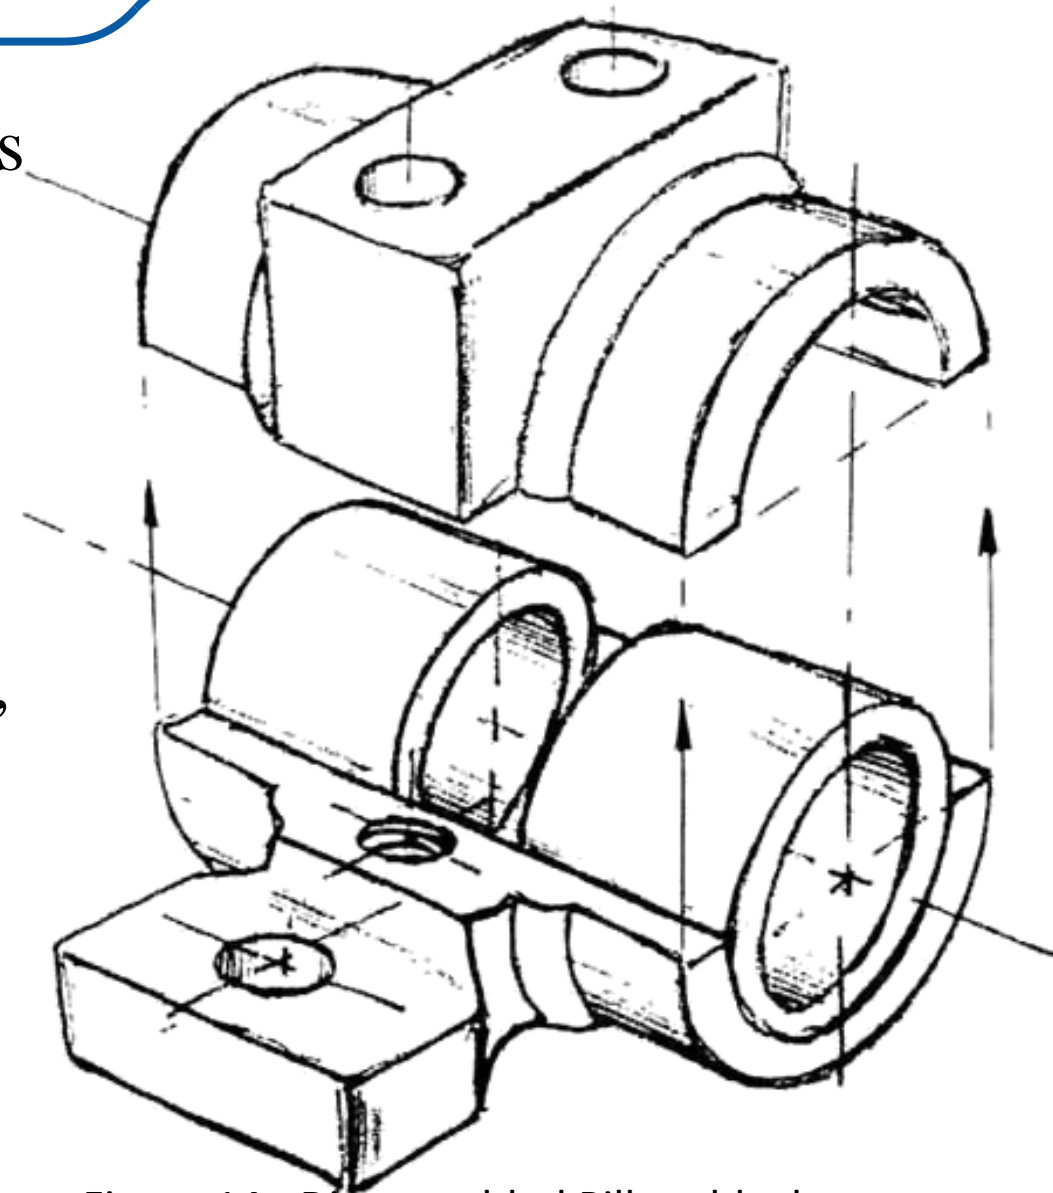

Figure 14 - Disassembled Pillow-block
- We can also show isometric views of the pillow-block being taken apart or "disassembled" (figure 14). This allows you to see the inner components of the bearing system. Isometric drawings can show overall arrangement clearly, but not the details and the dimensions.